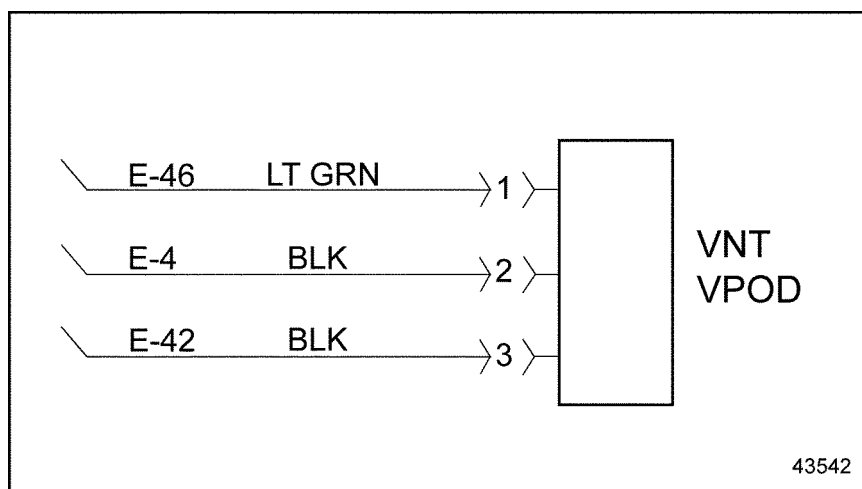

Figure 19-13 VNT/VPOD Schematic
- [b] Measure system voltage from pin 3 to pin 1. See Figure 19-13.